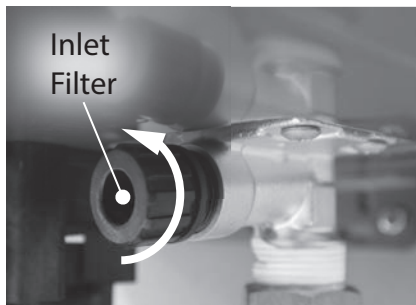

Figure 223 - Locate and remove inlet filter
- 8 Locate and remove the inlet filter as shown in Figure 223 to drain any residual water left in the system.